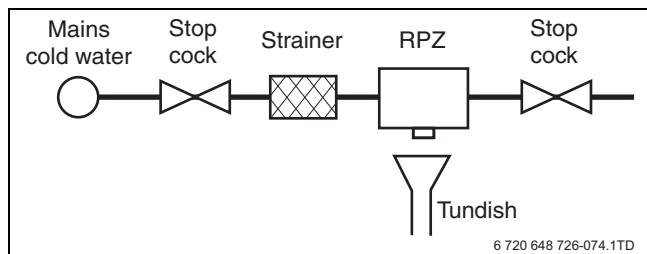

Fig. 10 System fill - category 4
- The CH sealed system must be filled using a WRAS approved filling method or comply with figure 10 for system fill.